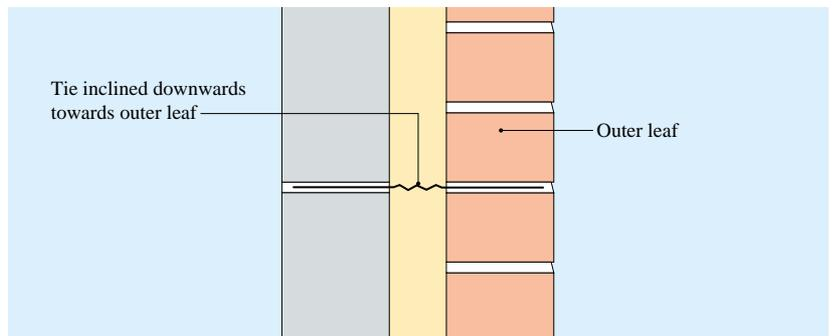
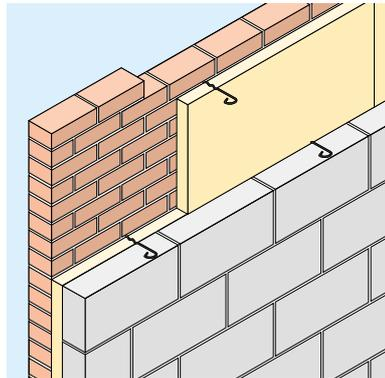

Figure 2 Correct wall tie installation
Figure 7
- 5 Fit the Batts by compressing between the two rows of wall ties to form a clean and tight butt jointed course (Figure 7). Wall tie drips should be located centrally in the Batts (Figure 2). Ties must be inclined downwards towards the outer leaf.